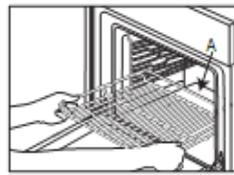

Fig. 1A
1. Insert the wire shelf horizontally, with the raised part "A" upwards (Fig. 1A, Fig. 1B)